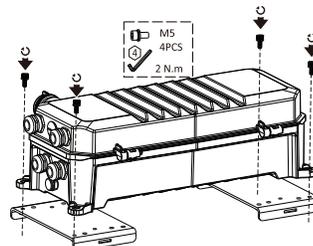

Fig. 23
- 1.3. Secure driver box to remote driver mounting plate (Fig. 23).